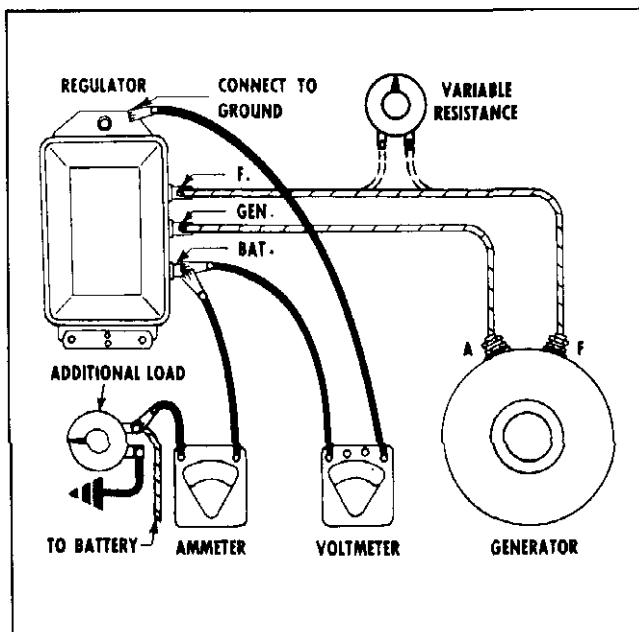

Fig. 12-6 Testing for Voltage Drops in Charging Circuit
Excessive voltage drop in the charging circuit tends to keep the battery in an undercharged condition. To check for excessive voltage drop (resulting from loose connections or other high resistance) in the charging circuit, make connections as shown in Fig. 12-6 and proceed as follows:
4. With the engine stopped, turn on the full lighting and accessory load (approximately 20 amperes). Measure the voltage drop at V_4 (Fig. 12-6). If this voltage drop exceeds 0.1 volt, excessive resistance is indicated in this portion of the charging circuit.